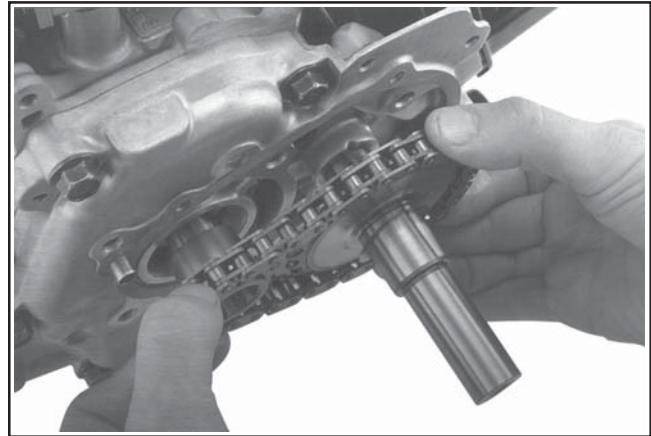
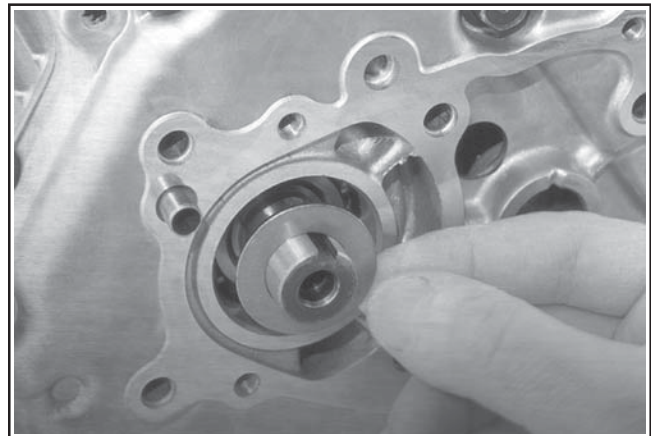

Figure 9-60. Removing Sprockets and Chain on CS4, CS6.
Figure 9-61. Thrust Washer Behind Crank Sprocket on CS4, CS6.
- a. On CS4 and CS6, leave the chain intact, and pull out the two sprockets as an assembly. See Figure 9-60. Note the position of the wave washer and remove it from the output shaft. Also remove the thrust washer from the end of the crankshaft. See Figure 9-61.